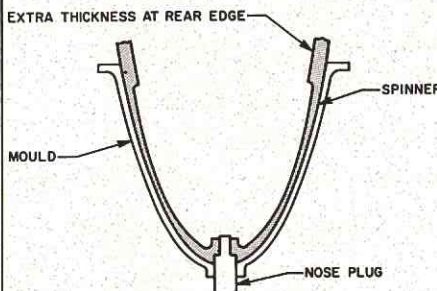

FIGURE 10
- l) Standard layup for spinner, using 6-oz. cloth. Build up to 1/4" over length at rear. See Fig. 10.